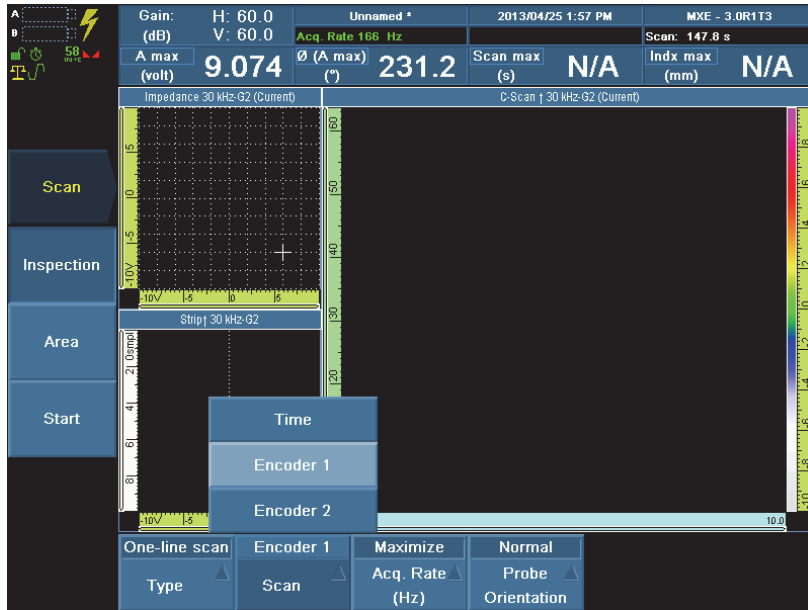

Figure 9-24 Activating the probe's encoder
1. Select **Scan > Inspection > Time = Encoder 1**, and then press the Accept key to confirm (see Figure 9-24 on page 169).